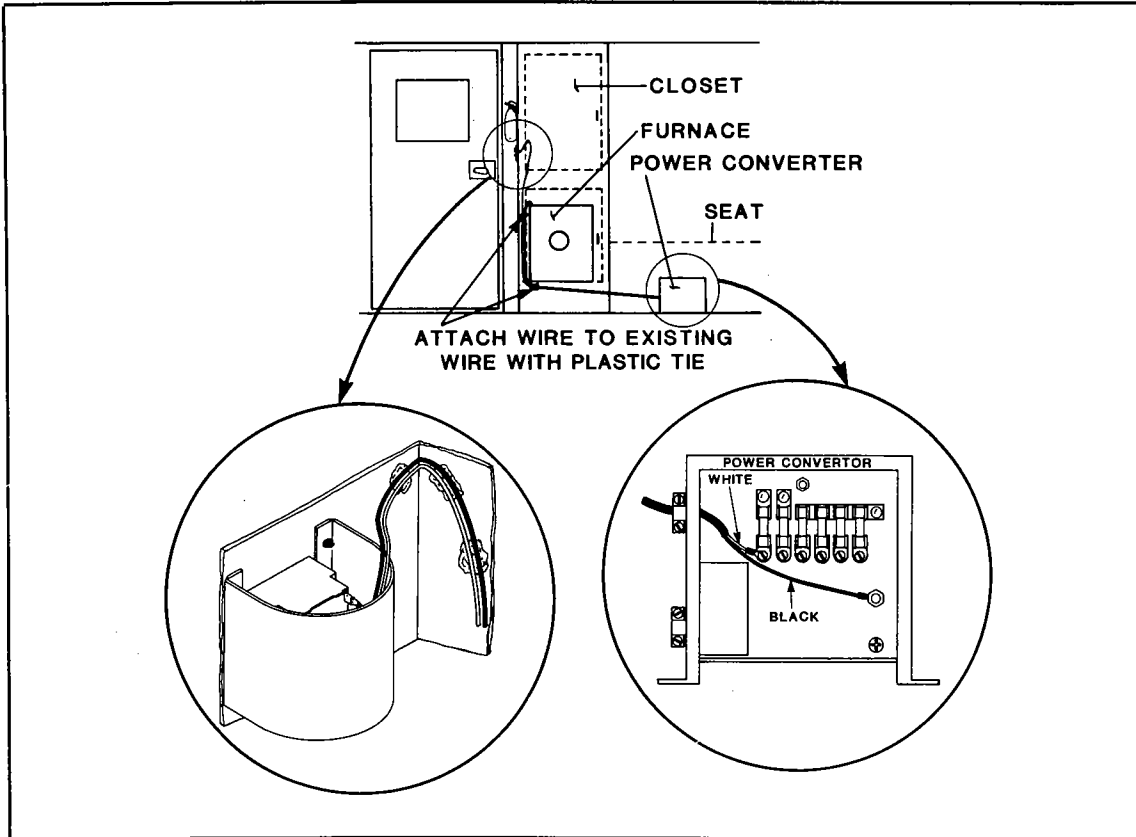

Figure 20. Battery Tester Wiring
6. Route SJO 18-2 wire (P/N 10032-013) from battery tester opening to converter. Hot glue wire to the wall (figure 20) using a repair type hot glue gun (may be purchased locally). Be sure to keep wire away from furnace exhaust vent.